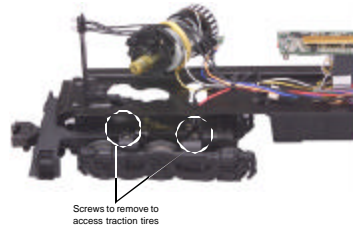

Figure 4. Screws to Remove to Access the Traction Tires
B. Remove the trucks from the chassis and the truck sides from the trucks in order to slip the new tire over the grooved drive wheel. See Fig. 4 for which screws you must remove to do this.